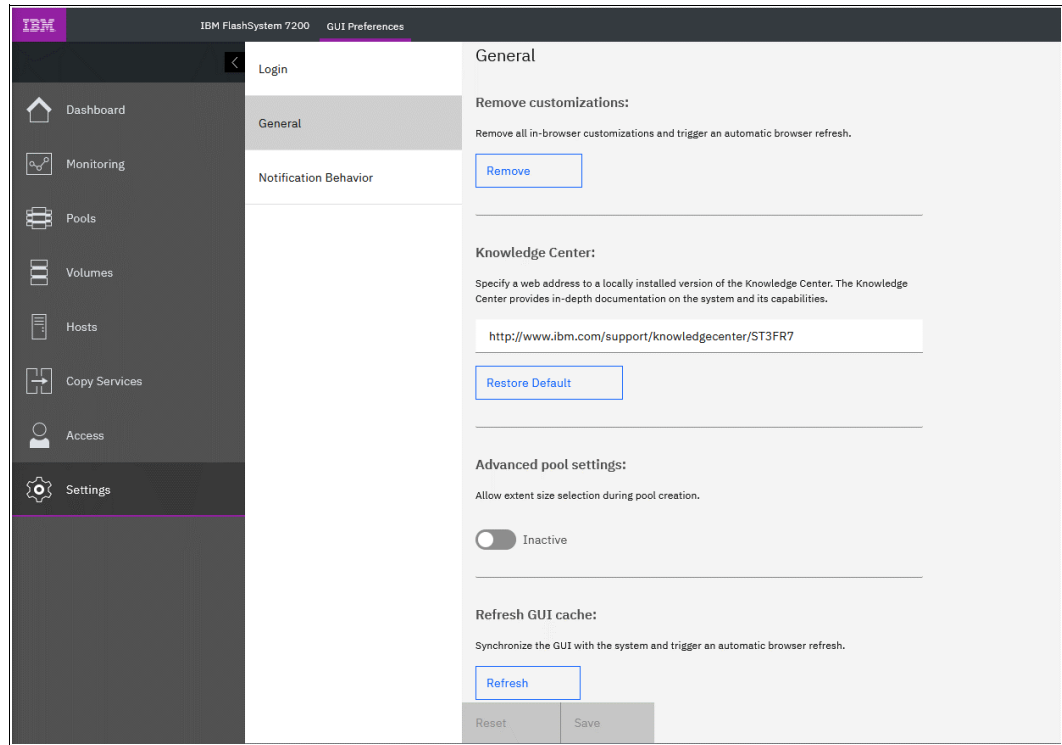

Figure 4-108 General GUI Preferences window
1. From the Settings window, click **Settings** and select **GUI Preferences** → **General** (see Figure 4-108 on page 229).